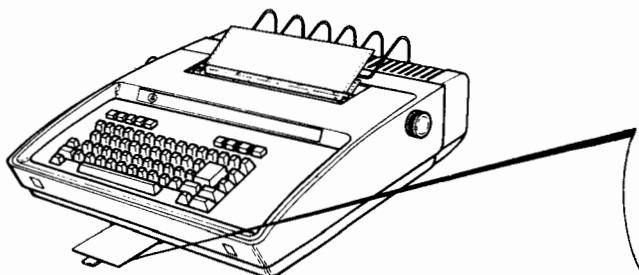

Fig. 4 - Directory Card
- 3.07 Remove the pull out directory card and record the nonstandard options incorporated in the terminal on the underside of the card. Check the appropriate square and briefly describe the enabled option(s) (Fig. 4).